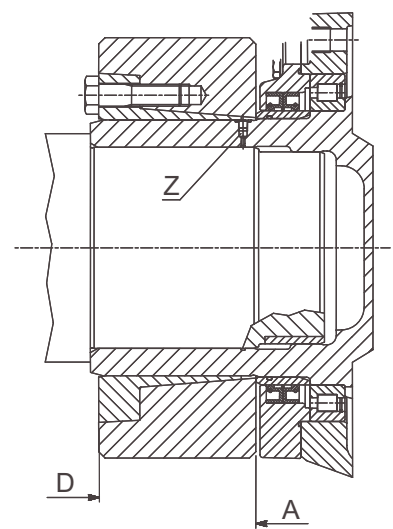

Fig. 2
- Refit cap "Z" (see fig. 2), then position the coupling (see fig. 2 point A)
- When the fitting of the coupling has been completed correctly, check the assembly visibly to make sure that the front surfaces of the internal and external rings are on the same plane (see fig. 2 point D).
- Before reinstalling the overhauled coupling, top up with lubricant in the zones marked "C" (see fig. 2).